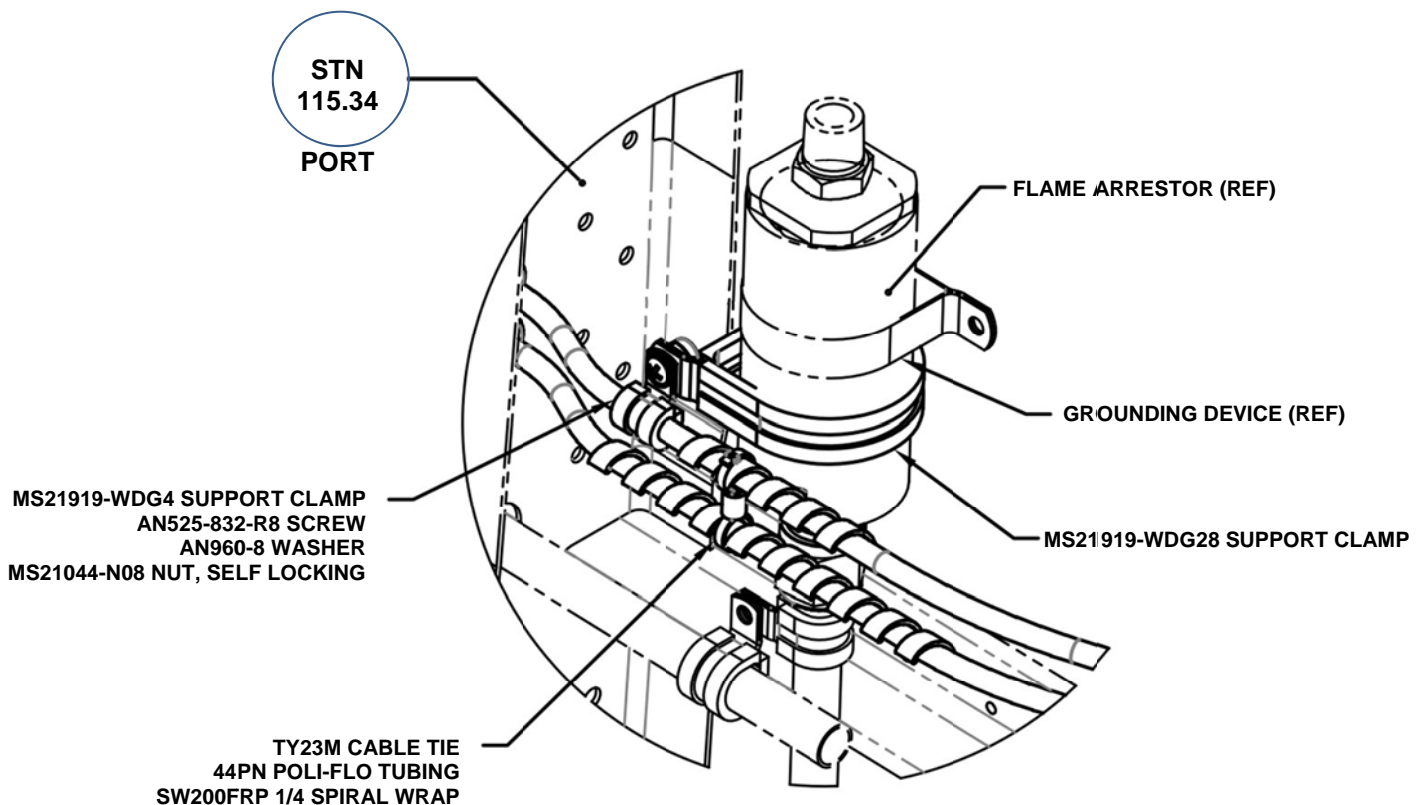
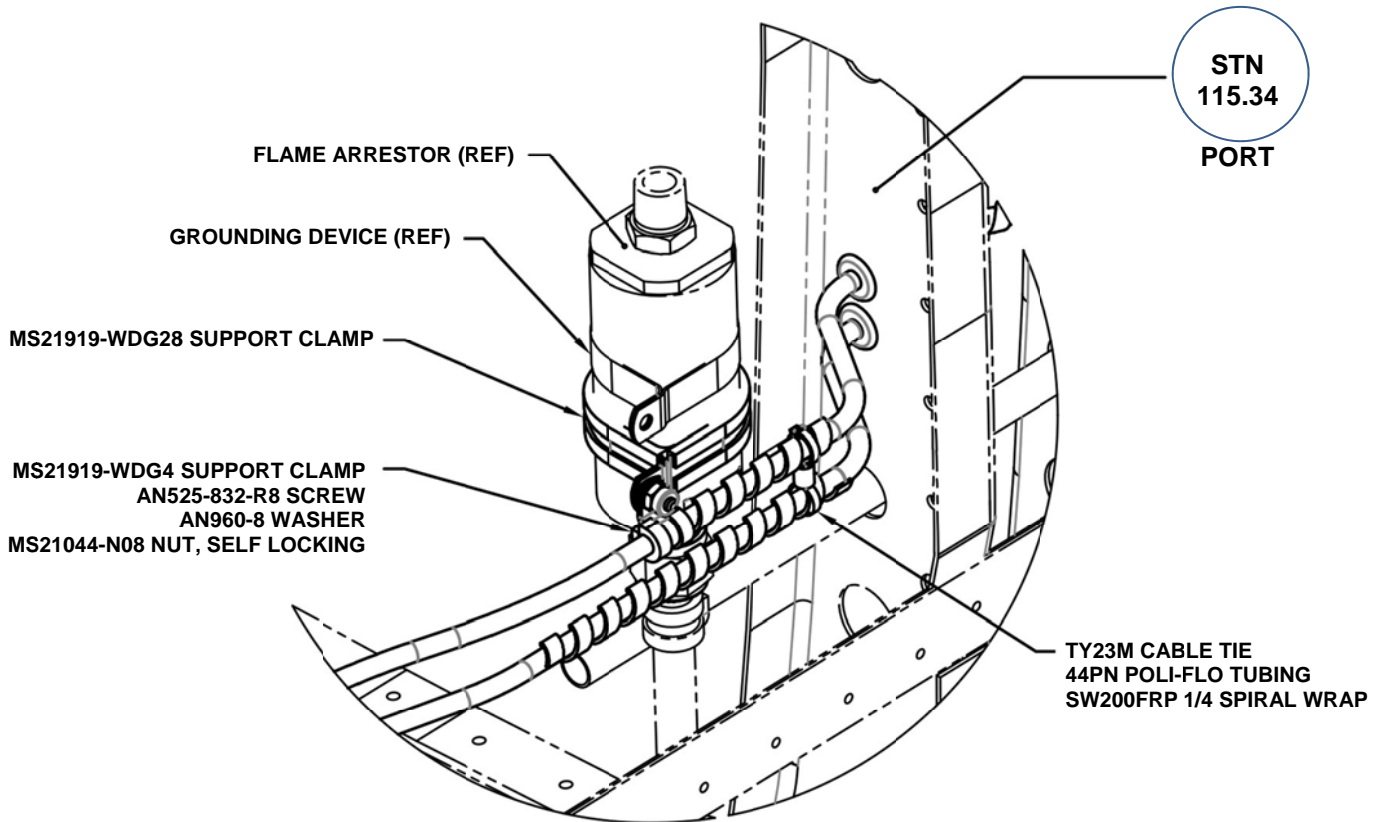

FIGURE 1 PITOT-STATIC SYSTEM – PITOT-STATIC LINES AND FLAME ARRESTOR INTERSECTION
FIGURE 2 PITOT-STATIC SYSTEM – PITOT-STATIC LINES AND FLAME ARRESTOR INTERSECTION (ALTERNATIVE)
(Refer to Figure 1)
- 2) Install pitot-static lines supporting clamps as shown in Figure 1. Use alternative way shown in Figure 2 if pitot-static lines traced between the flame arrestor and fuselage skin.